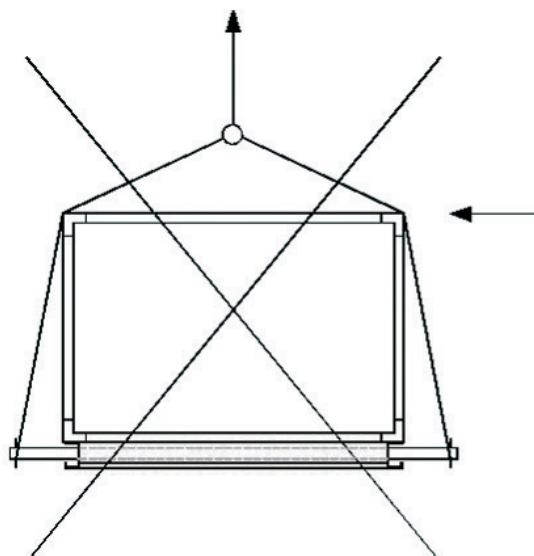

Figure 7
- Hoisting without spacer supports (Figure 7) is not allowed, as this may damage the housing.